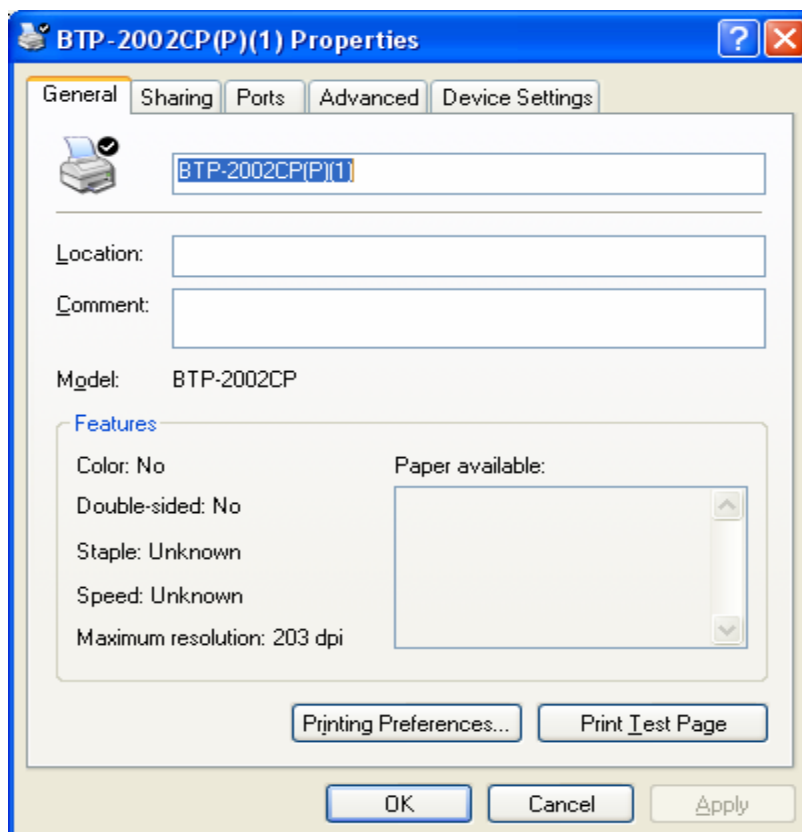

Figure 5.3.1 Property Window of Printer
- Click the picture of BTP-2002CP printer installed, open the property window of printer (shown as figure 5.3.1)